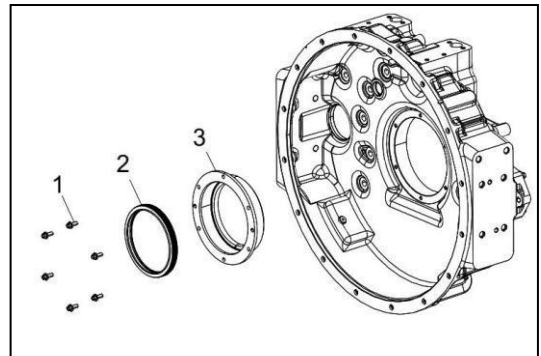

Figure 134
2. Assemble the rear oil seal group on the flywheel housing (Figure 134).
5. Install the flywheel housing (Figure 134, 2) to the rear end of engine block by using guide rod.